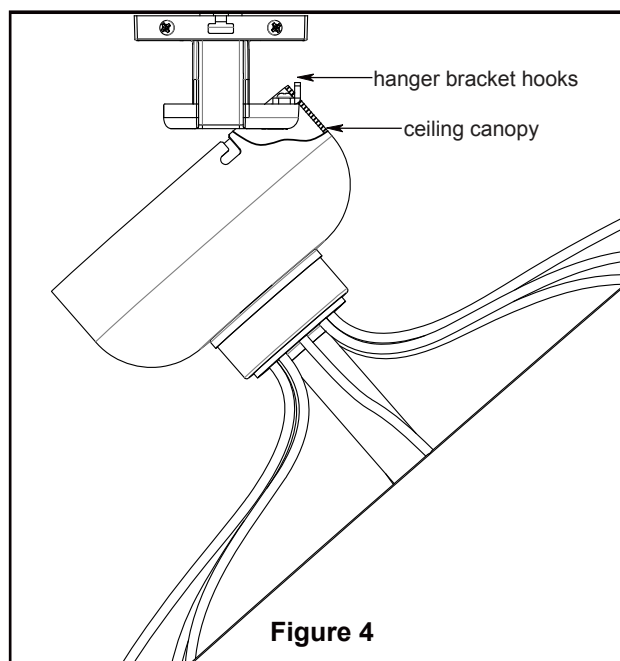

Figure 4
- ☐ 4. Cut off excess lead wire approximately 6 to 9 inches above top of the downrod. Strip insulation off 1/2 inch from the end of each lead wire. (Figure 4)
- ☐ 3. Carefully lift the fan and seat the downrod/hanger ball assembly onto the hanger bracket that was just attached to the outlet box. Be sure the groove in the ball is lined up with tab on the hanger bracket. (Figure 4)
- ☐ 4. The side mounting strip holes of the ceiling canopy are hung on the hooks of the hanger bracket. (Figure 4)
3. Connect green wires from hanger bracket and motor housing to bare (ground) wire using wire connector. Connect black wire from receiver unit marked “AC IN L” to black supply wire using wire connector. Connect white wire from receiver unit marked “AC IN N” to white supply wire using wire connector. Connect white wire from receiver unit marked “TO MOTOR N” to white wire from fan using wire connector supplied with receiver unit. Connect black wire from receiver unit marked “TO MOTOR L” to black wire from fan using wire connector supplied with receiver unit. Lastly, connect blue wire from receiver unit to the blue fan light wire using wire connector supplied with receiver unit. (Figure 4)